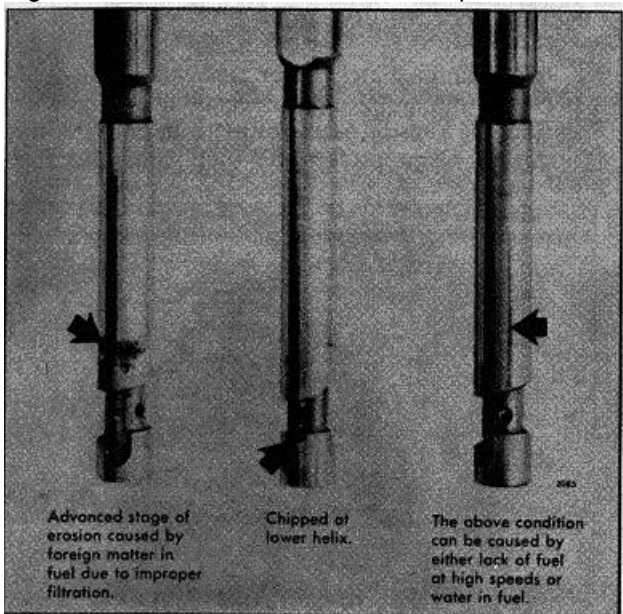

Fig. 12 Unusable Injector Plungers
4. Inspect the plunger. If the plunger is chipped (Fig. 12), replace the plunger and bushing assembly.